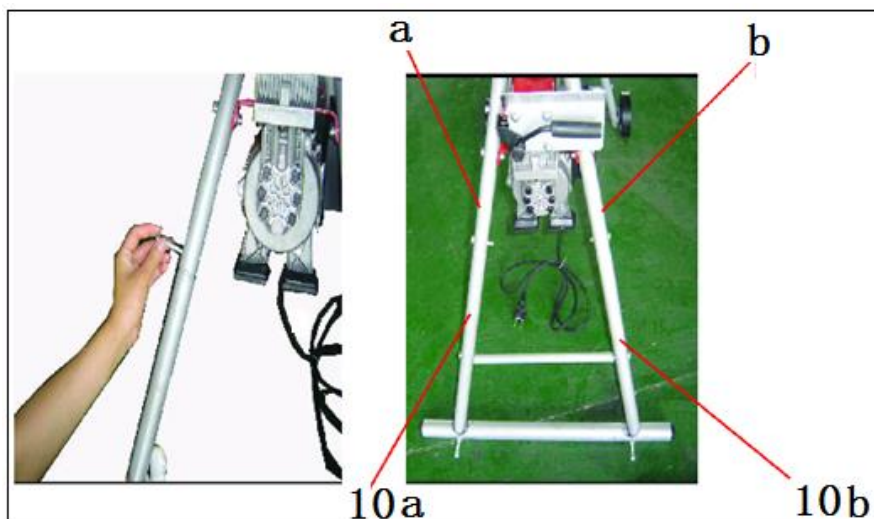

fig.2
a) Connect front stand (10a) to connection pipe (a) and front stand (10b) to connection pipe (b) by bolts and nuts (fig.2).